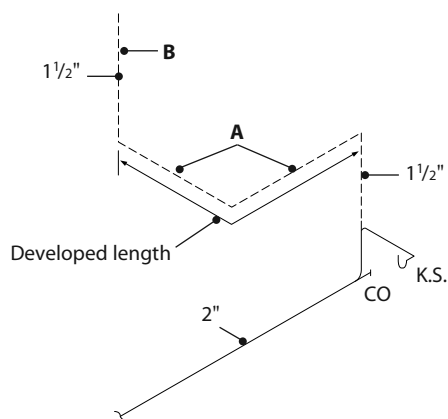
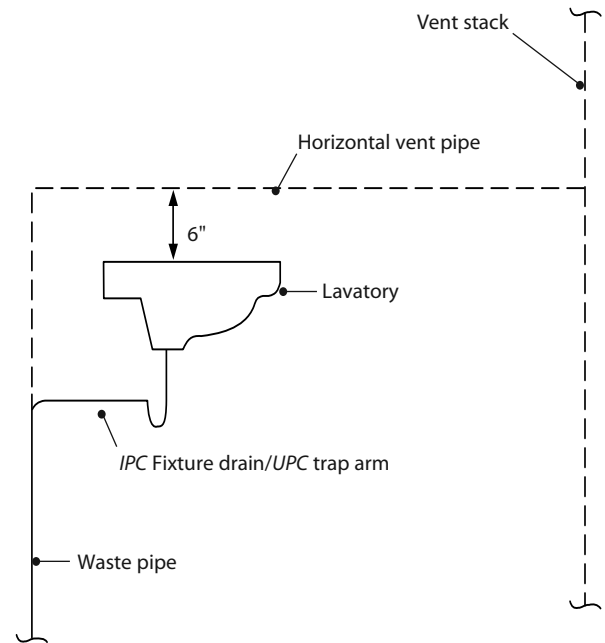

Figure 3-22
Figure 3-23
- 3) The horizontal section of a vent pipe (see A in Figure 3-22) must not exceed one-third of the total permitted length of vent pipe as illustrated by the vertical section B.
- 4) Some codes will allow the horizontal section (A) to be installed up to 20 feet in length.
- A vent pipe must rise vertically to a point at least 6 inches above the flood level rim of the fixture it serves before it can be offset horizontally and connect to any other vent. See Figure 3-23.
The *IPC* requires a *stack vent* extending through the roof be provided for the waste stack, and it must not be smaller than the waste stack. For example: If the waste stack is 3 inches, then the stack vent must also be 3 inches. The stack vent may have offsets if necessary. Any offset must be at least 6 inches above the flood level rim of the highest fixture. Look back to Figure 3-23. The vent pipe must be graded to drain back to the drainage pipe by gravity.